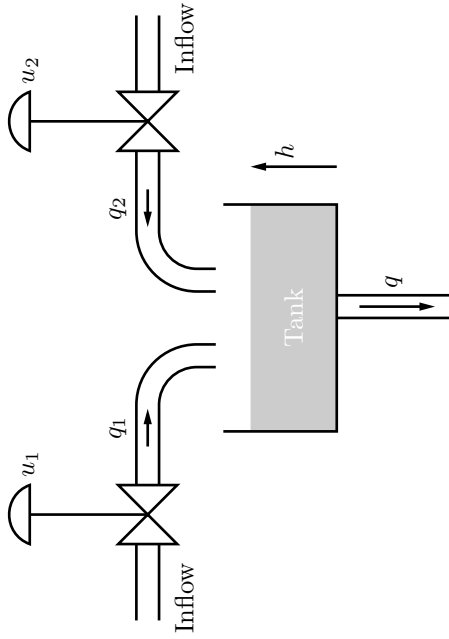

Figure 8.8a
8.8 Consider the tank in Figure 8.8a. The tank can be filled from two different pipes, where the flows  $q_1$  and  $q_2$  are determined by the valve settings  $u_1$  and  $u_2$ . If  $q_1$ ,  $q_2$ ,  $u_1$ ,  $u_2$ , and  $h$  denote the deviation from a nominal value, we get the linearized equation